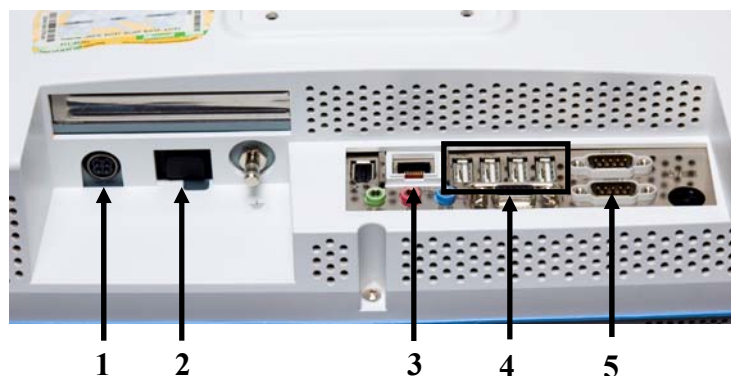

Figure 3-5 PC connectors
To connect the Med-Storm Stress Detector the following connectors and buttons (Figure 3-5) are used:
For data transfer or system management, the following connectors (Figure 3-5) can be used:
1. Figure 3-4 and Figure 3-5.